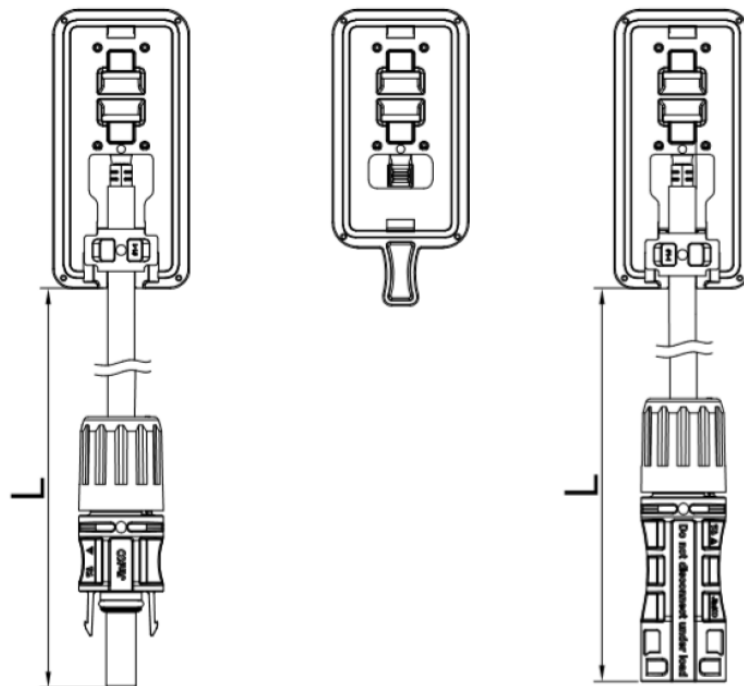

Figure 5: Half-cut Cell Module Split Junction Box
- 12) The length of the junction box shall be determined according to the component specifications and the customer's design proposal. As shown in Figure 5 below, consider the length of the lead wire before designing the wiring.